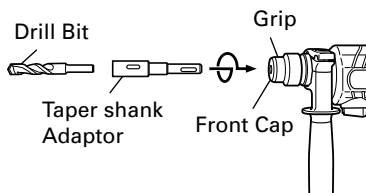
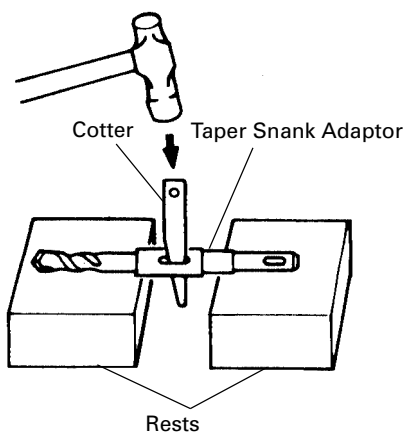

Fig. 13
Fig. 14
- (1) Mount the taper shank adaptor to the rotary hammer. (Fig. 13)
- (2) Mount the drill bit (taper shank) to the taper shank adaptor. (Fig. 13)
- (3) Turn the switch ON, and drill a hole in prescribed depth.
- (4) To remove the drill bit (taper shank), insert the cotter into the slot of the taper shank adaptor and strike the head of the cotter with a hammer supporting on the rests. (Fig. 14)